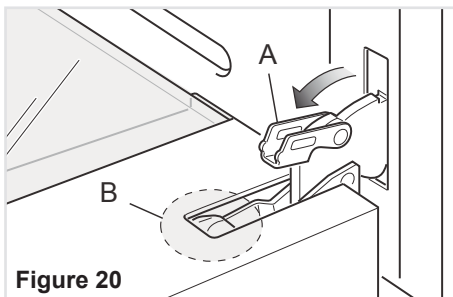

Figure 20
- Open the lever "A" completely on the left and right hinges (fig. 20).
- Gently close the door until left and right hinge levers "A" are hooked to part "B" of the door (figs. 20, 21).